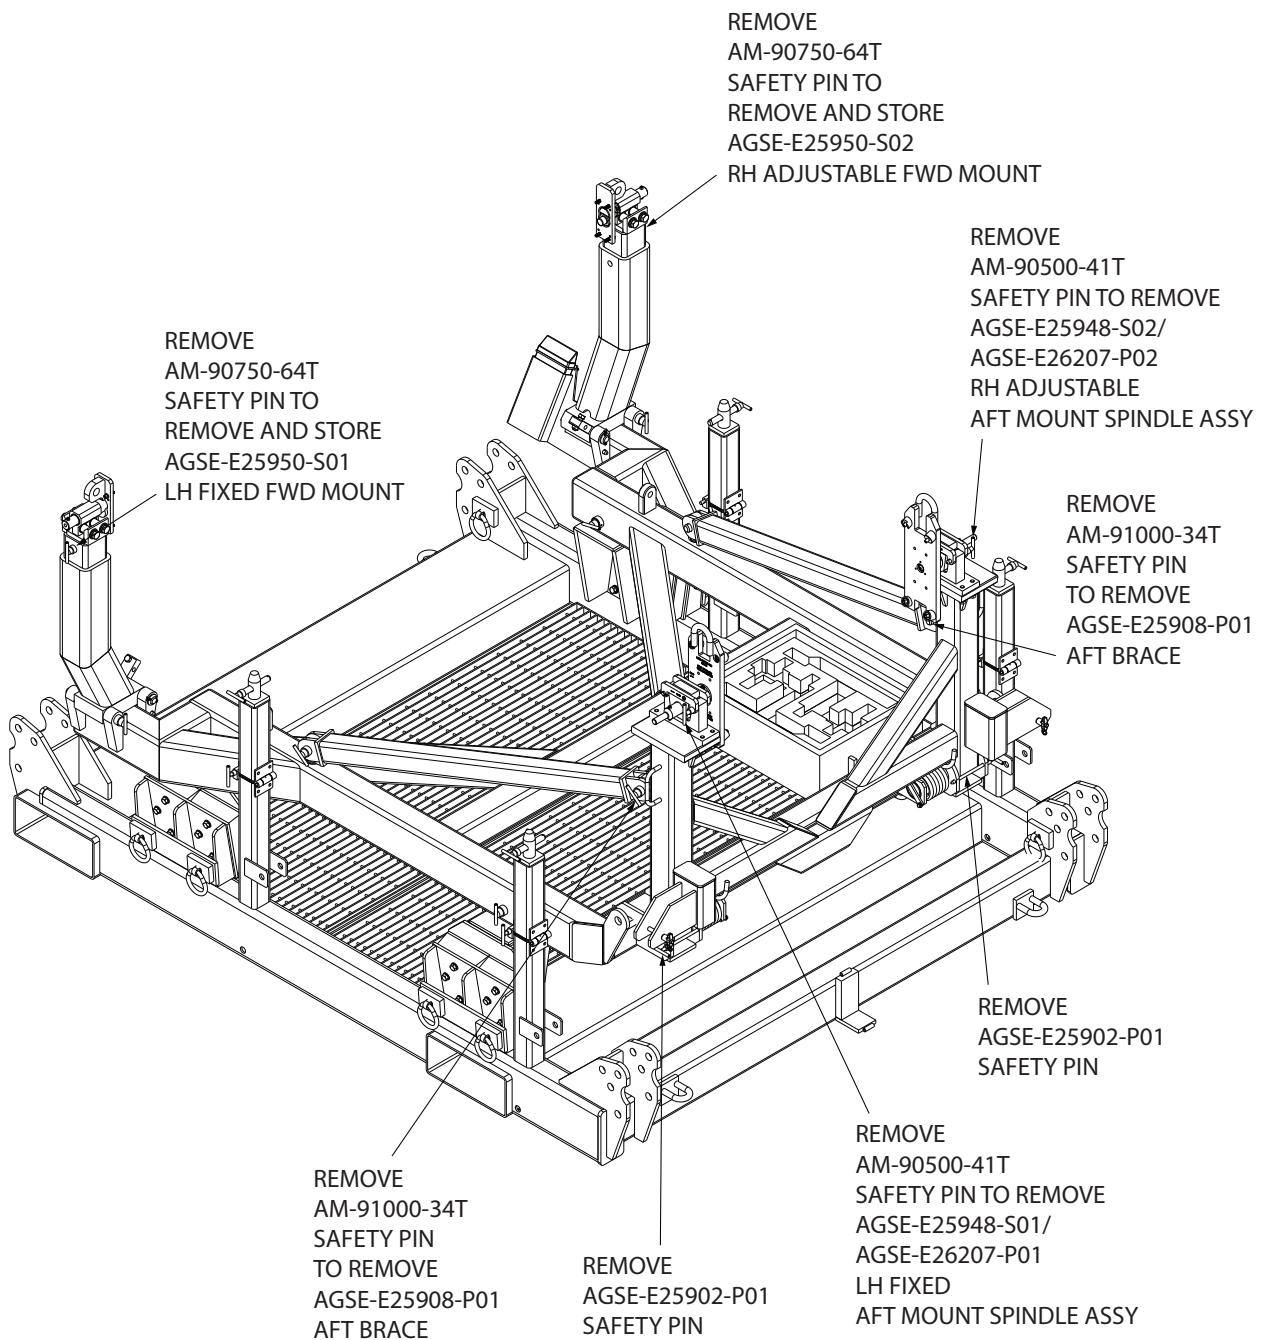
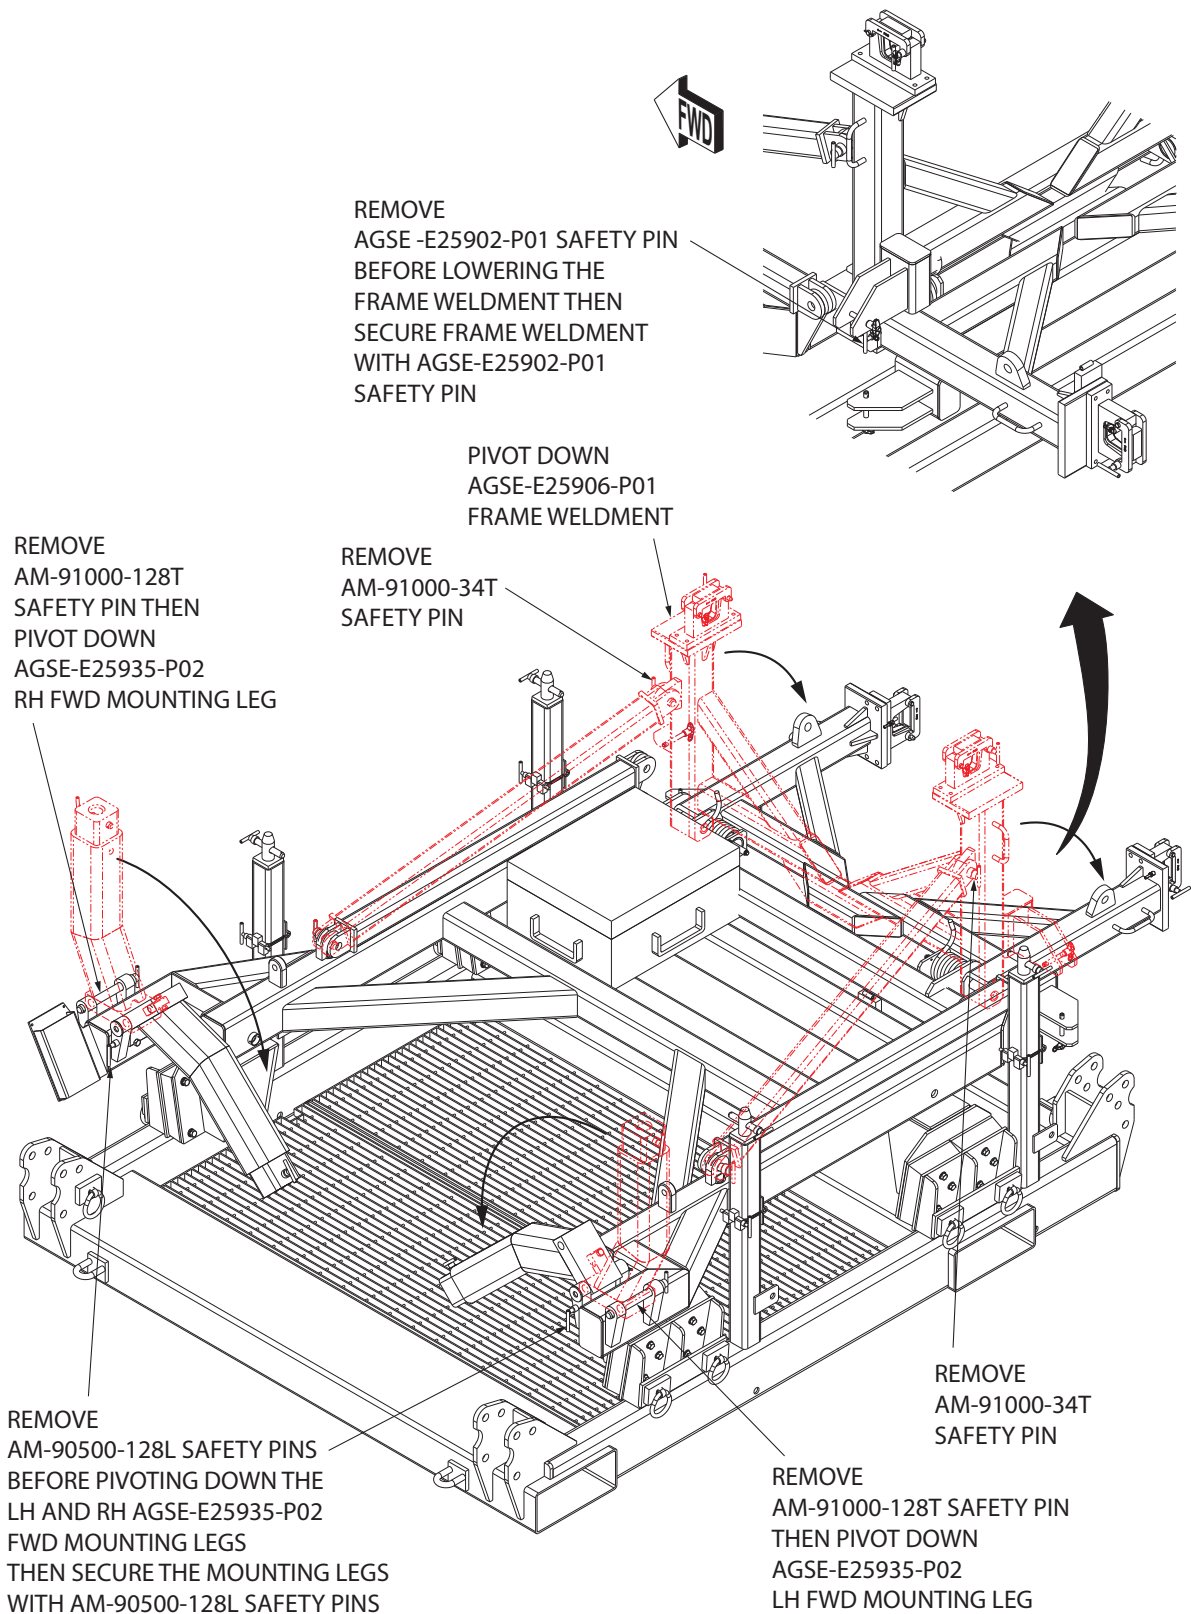

Figure 5.2-1
Figure 5.2-2
- 1) Remove two (2) AM-90750-64T safety pins to remove the AGSE-E25960-S01 LH fixed FWD mount assembly and AGSE-E25960-S02 RH adjustable FWD mount assembly. Store in AGSE-E26297-S01 component storage box. (Illustration Figure 5.2-1).
- 2) Remove two (2) AM-90500-41T safety pins from AGSE-E25949-P01 AFT mount saddle caps to remove the AGSE-E25948-S01 / AGSE-E26207-P01 LH fixed AFT mount spindle assembly and AGSE-E25948-S02 / AGSE-E26207-P02 RH adjustable AFT mount spindle assembly and store in the component storage box.
- 3) Close the two (2) saddle caps and secured on the AFT mount bases with the removed safety pins AM-90500-41T.
- 4) Remove two (2) safety pins AGSE-E25902-P01 from the frame weldment storage location.
- 5) Remove two (2) rear AM-91000-34T safety pins to pivot down the two (2) AGSE-E25908-P01 AFT braces. Secure with the two (2) removed AM-91000-34T safety pins on the cradle lugs as shown in Illustration Figure 5.2-2.
- 7) Remove two (2) AM-90500-128L safety pins from their storage location.
- 8) Remove two (2) AM-91000-128T safety pins.
- 9) Pivot down the two (2) AGSE-E25935-P02 FWD mounting legs until the stowage holes are aligned with those on the cradle frame and install previously removed two (2) AM-90500-128L and two (2) AM-91000-128T safety pins.